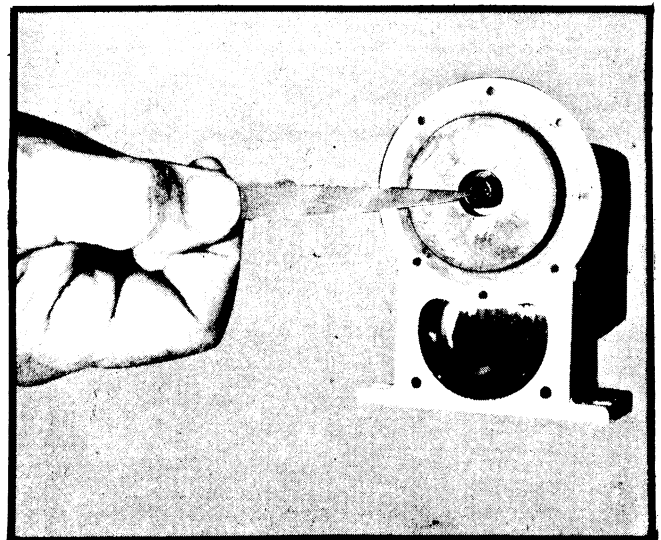

Figure 83
- d. Place a 1/4" diameter o-ring over extended edge of lip seal. (If you have the heavy shaft pump motor, a larger o-ring will have to be used), *Figure 83*.